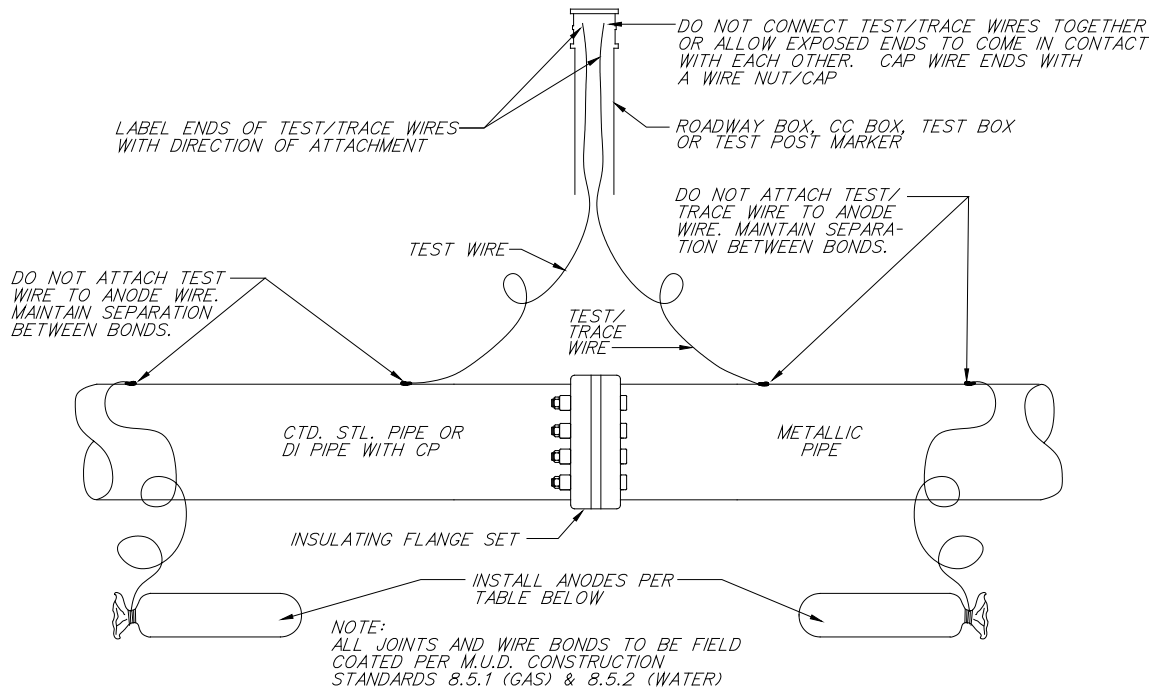

FIG 2
7. Attach test wire to steel pipe per C.S. 8.3.2 (gas) or C.S. 8.3.3 (water). If ductile iron pipe is involved and trace wire is available with existing ductile iron pipe, attach trace wire to existing trace wire per C.S. 11.2.2 (gas) or C.S. 1.14.1 (water). Install either a roadway box, CC box or test marker. Bring wire(s) up alongside or inside roadway box, CC box or test marker per C.S. 8.3.1. See Fig 2.